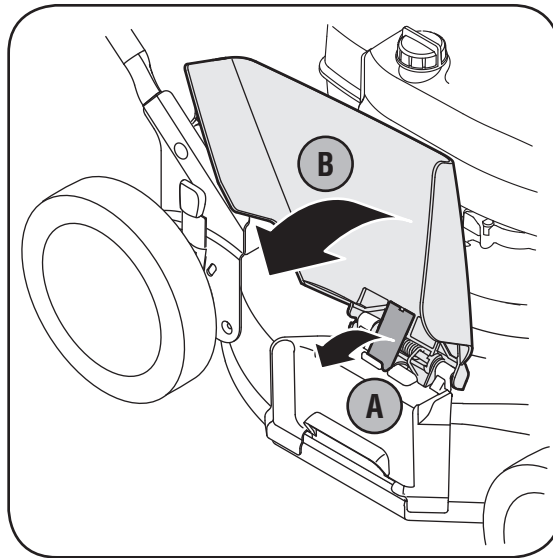

Figure 3-1: Remove retainer from underside of chute.
- a. Pull chute deflector up and back towards engine. Holding deflector in this position, remove the retainer and discard, Figure 3-1.